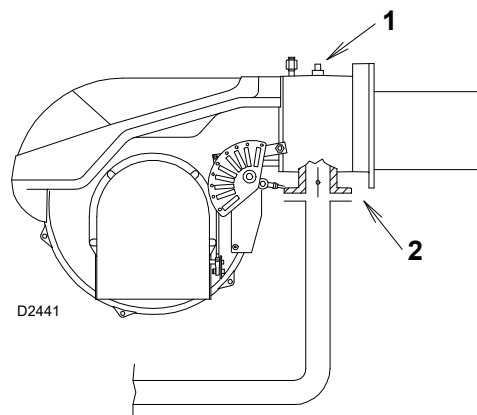

Fig. 15
Δp_1 - Gas pressure is measured at the test point 1)(Fig. 15), with:
Δp_2 - Load loss at gas butterfly valve 2)(Fig. 15) with maximum opening: 90°.
- subtract the combustion chamber pressure from the gas pressure measured at test point 1)(Fig. 15);
- Gas pressure at test point 1)(Fig. 15) = 3.85 "WC